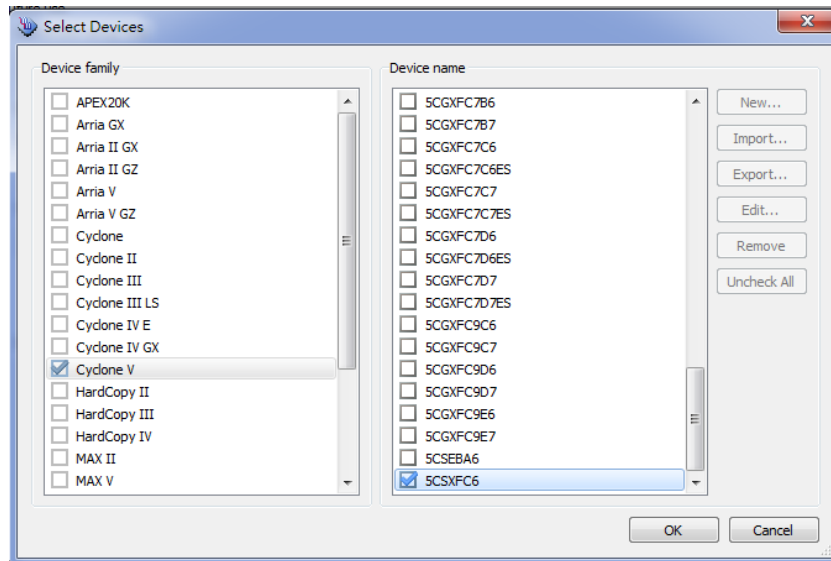

Figure 7-4. Select Devices Page
13. Click OK. The **Convert Programming Files** page displays. See Figure 7-4.